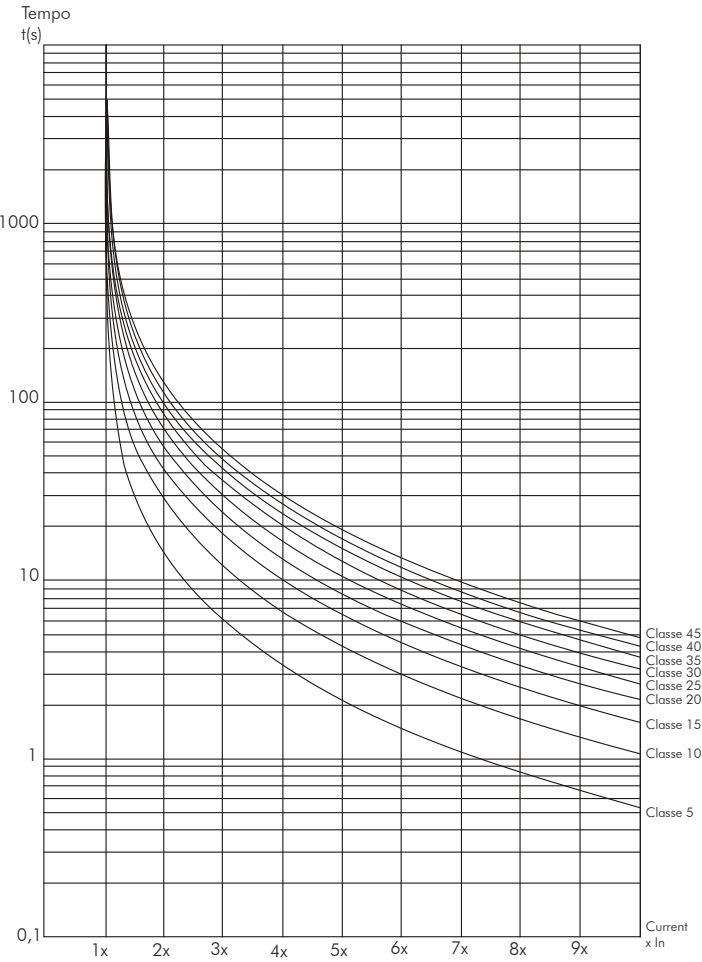

Figure 5.27 - Tripping classes for warm motor protection with 100 % I_n
2) At the figure 5.27 we verify the maximum tripping class that the motor withstands due to the warm locked rotor time. For $6.6 \times I_n @ 12 \text{ s}$ we adopt the closest curve below the found point: Class 40.